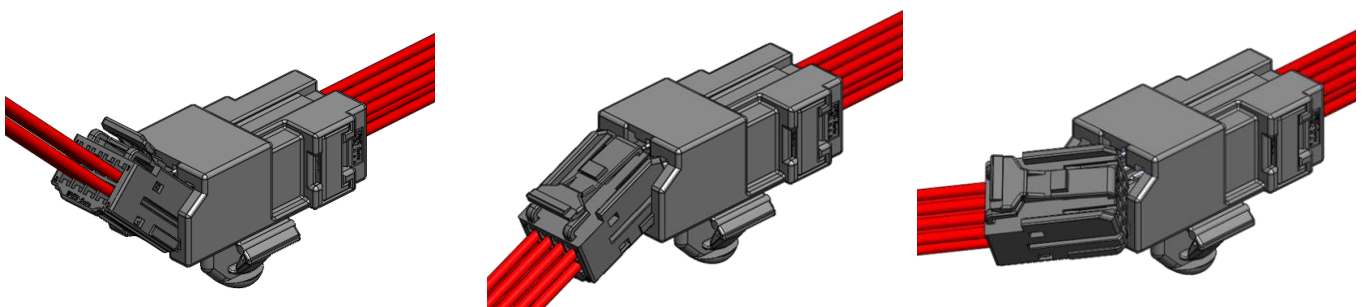

Fig. 45 Examples of incorrect mating orientation (not advisable)
- ① Only mate the connector in the direction instructed above. Do not forcefully mate in any orientation shown in Fig.45. Doing so may cause damage or deformation to connectors.
- ② If there is any damage or deformation, do not use the damaged item. Replace the item with a new one.